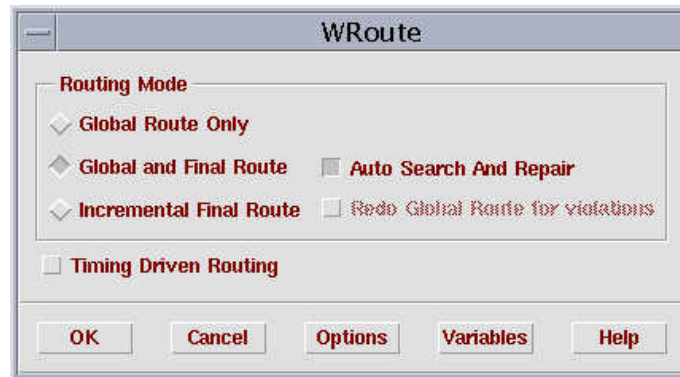

Figure 7-39 WRoute settings.
- Click on **Route** → **WRoute...**, and the WRoute form appears as figure 7-39.